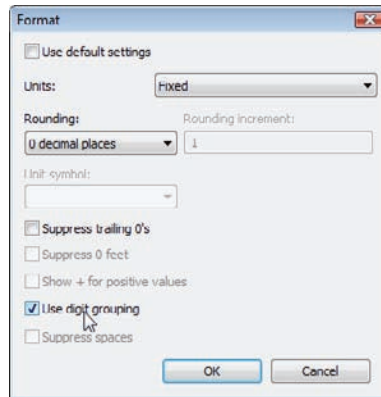

FIGURE 11.37 Overriding the units to allow this field to round
13. Deselect Use Default Settings, as shown in Figure 11.37.
16. Select Use Digit Grouping (see Figure 11.37).